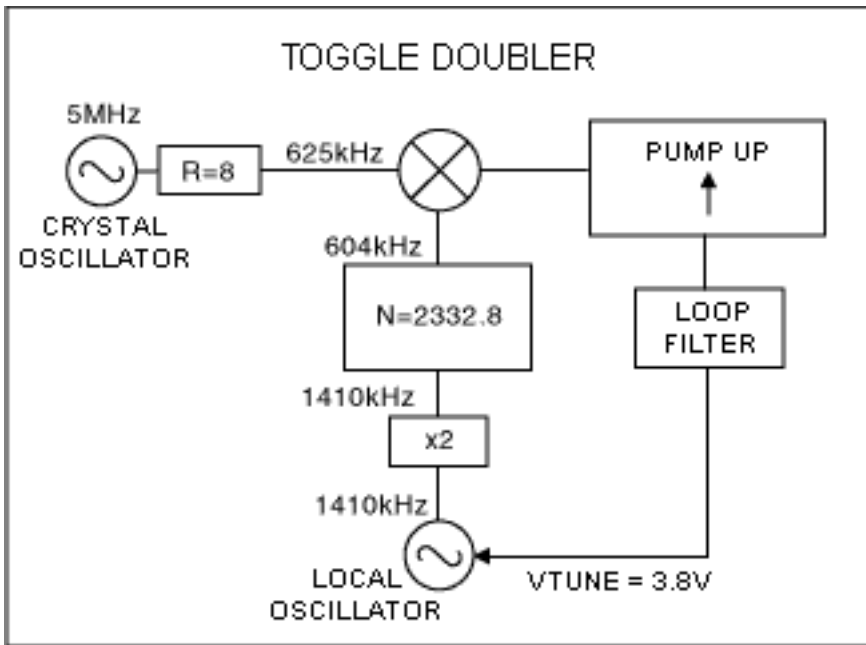

Figure 4. Toggle LO doubler.
**Figure 4** shows PLL operation when the LO doubler is toggled. Now that the LO is no longer doubled, the LO comparison frequency drops to 604kHz. Since this is below the crystal reference comparison frequency of 625kHz, the charge pump pumps up and increases the tune voltage. The tune voltage will climb from 3.8V to 31V. When  $V_{tune}$  rises from 3.8V to 31V the loaded Q of the tank improves enough to dominate and oscillate in fundamental mode.